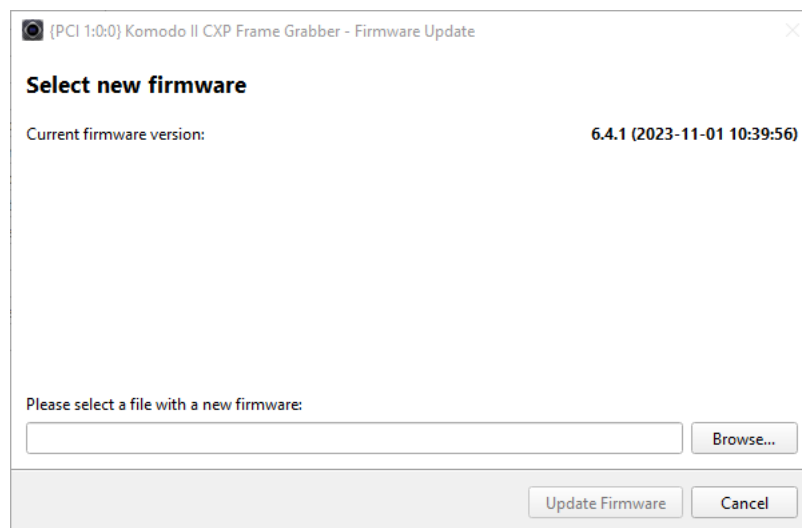

Figure 33 – Firmware update selection window
2. Click the Browse button, as shown in Figure 33, and choose the appropriate firmware file for the chosen device.